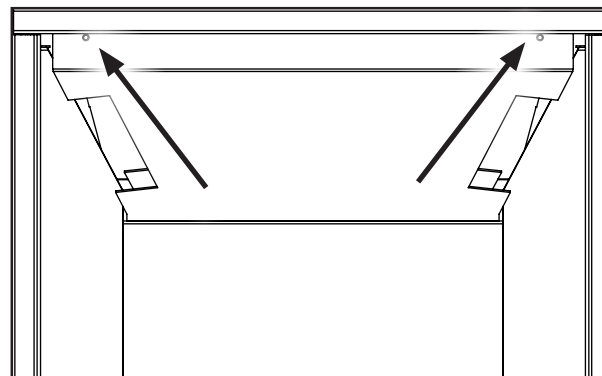

Figure 66. Top Panel Screws.
8. Install the top porcelain panel by screwing it to the firebox baffle as show in Figure 66 using the supplied screws.